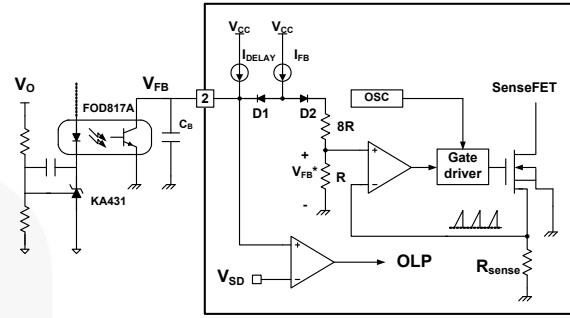

Figure 16. Pulse Width Modulation (PWM) Circuit
**2. Feedback Control:** FSQ500L employs current mode control, as shown in Figure 16. An opto-coupler (such as the FOD817A) and shunt regulator (such as the KA431) are typically used to implement the feedback network. Comparing the feedback voltage with the voltage across the  $R_{sense}$  resistor makes it possible to control the switching duty cycle. When the reference pin voltage of the regulator exceeds the internal reference voltage of 2.5V, the opto-coupler LED current increases, pulling down the feedback voltage and reducing the duty cycle. This typically happens when the line input voltage increases or the output load current decreases.
**2.1 Pulse-by-Pulse Current Limit:** Because current mode control is employed, the peak current through the senseFET is limited by the non-inverting input of PWM comparator ( $V_{FB}^*$ ), as shown in Figure 16. Assuming that 225 $\mu$ A current source flows only through the internal resistor ( $8R + R = 12k\Omega$ ), the cathode voltage of diode D2 is about 2.7V. Since D1 is blocked when the feedback voltage ( $V_{FB}$ ) exceeds 2.7V, the maximum voltage of the cathode of D2 is clamped at this voltage, clamping  $V_{FB}^*$ . Therefore, the peak value of the current through the senseFET is limited.